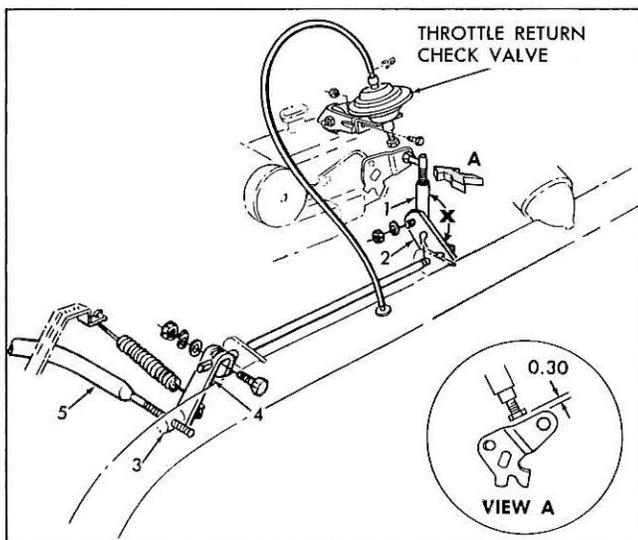

Fig. 5—Accelerator Linkage
Accelerator Linkage Adjustment (Refer to Figure 5)
1. Disconnect accelerator rod swivel (3) from cross-shaft lever (4).
2. Check throttle lever to see that it is against idle speed screw, then check to see that linkage angle "X" is approximately 126° as shown in Figure 5. Adjust this angle by lengthening or shortening rod (1).
3. Measure clearance between throttle valve lever and return check valve bolt (fig. 5 & 6) using .030" wire gauge on Tool Set J-21056.